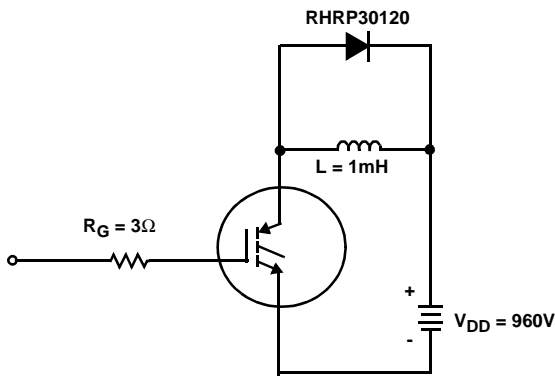

FIGURE 18. INDUCTIVE SWITCHING TEST CIRCUIT
- Values for two Turn-On loss conditions are shown for the convenience of the circuit designer. EON1 is the turn-on loss of the IGBT only. EON2 is the turn-on loss when a typical diode is used in the test circuit and the diode is at the same  $T_J$  as the IGBT. The diode type is specified in Figure 18.